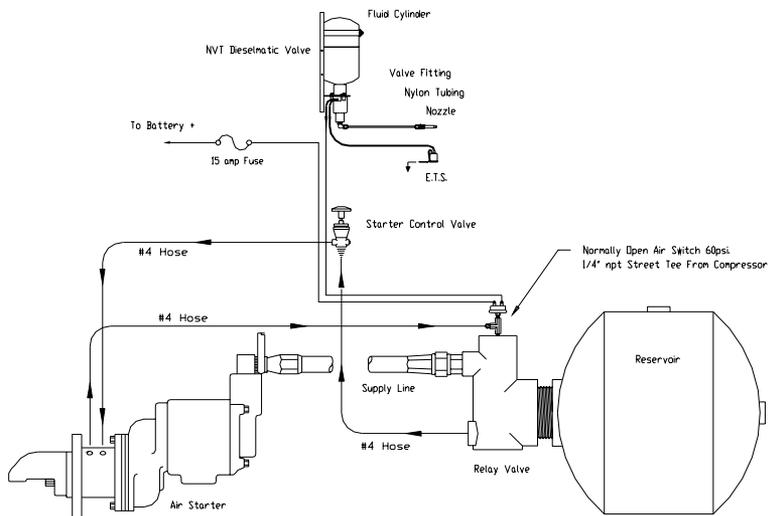

FIGURE 10
6. The valve assembly should be checked for proper operation before the ETS Switch is wired into the circuit. To do this, disconnect the battery and complete the wiring circuit as shown in Figure 10. **However, connect the colored lead directly to a good ground.** Reconnect the battery.
8. After this check is made and proper valve operation is verified, disconnect the battery and complete the wiring circuit for the ETS Switch as shown in Figure 10. Be sure all wires are routed away from heat, moving parts, sharp edges, etc. If possible, route wiring with existing harnesses. Reconnect the battery.
NOTE: To check system for proper operation, the NORMAL Engine Temperature Sensor (ETS) must be below 40°F (4°C), or be bypassed by connecting the valve's colored lead directly to a good ground. After checking, be sure to reconnect the colored lead in accordance with Figure 10, 11, or 12.